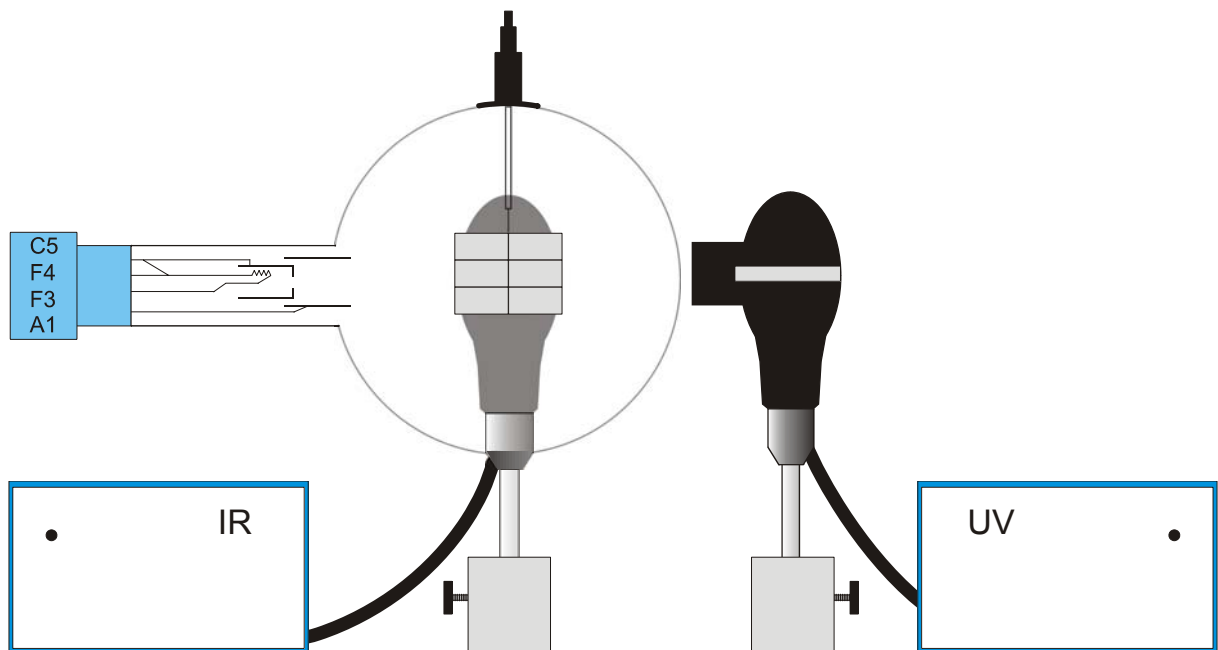

Fig. 3 Phosphorescence and quenching
- Remove all connecting leads from the tube (refer to fig. 3).